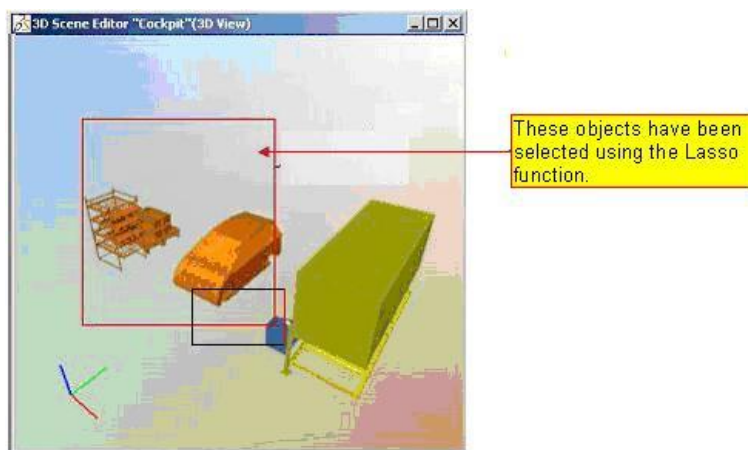

Figure 129: Selecting Object with the Lasso
- 3) Press the left mouse button afterwards and draw a frame around the objects while holding down the mouse button. All objects within this frame are selected. *Please refer to the Figure 129.*